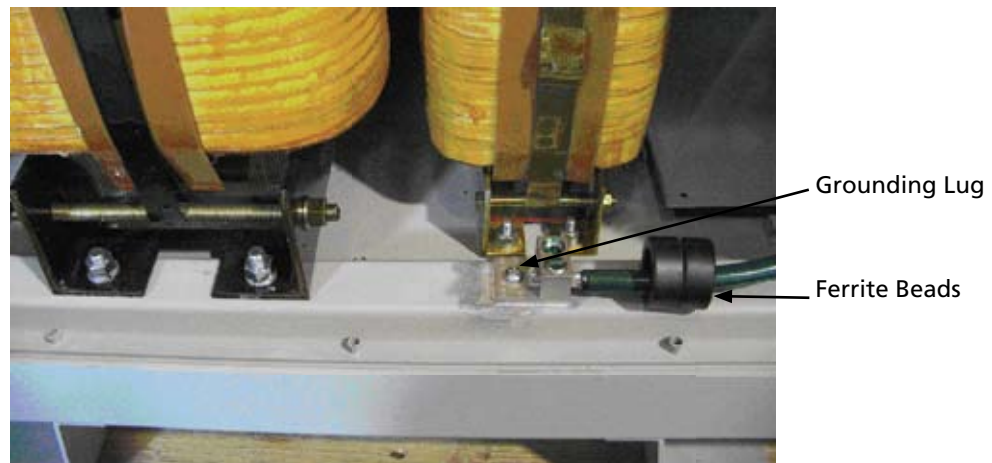

Figure 4-2 Ferrite Beads and Grounding Lug
For FCC emissions compliance, install the provided ferrite beads (Steward P/N 28B1250-000) around the utility ground wire. See Figure 4-2.
The PVP30kW Inverter is connected to the electrical grid using four wires: Phase A voltage, Phase B voltage, Phase C voltage and GROUND (Figure 4-5, ground not shown, See Figure 4-2 for ground) There is one lug available per phase to connect the AC input. Each lug can accept up to a 2/0 cable (note the second lug in the lower section of the terminal block in figure 4-5 is used for internal inverter wiring and is not available to the installer). Do NOT connect a neutral wire to the WYE point of the isolation transformer. The AC voltage connections in the PVP30kW are terminated in the AC disconnect located within the lower enclosure on the right side.
3. Connect the GROUND wire to the terminal marked 'EARTH GROUND' inside the PVP30kW Inverter (see Figure 4-2).
6. Connect the PV frame ground wire(s) to the ground lug (see Figure 4-2).